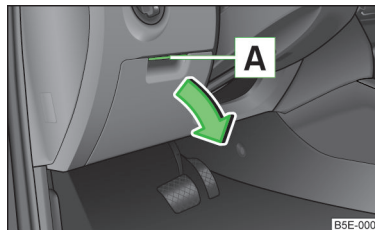

Fig. 58
- Raise the handle **A** » Fig. 58 and open out the compartment in the direction of the arrow.